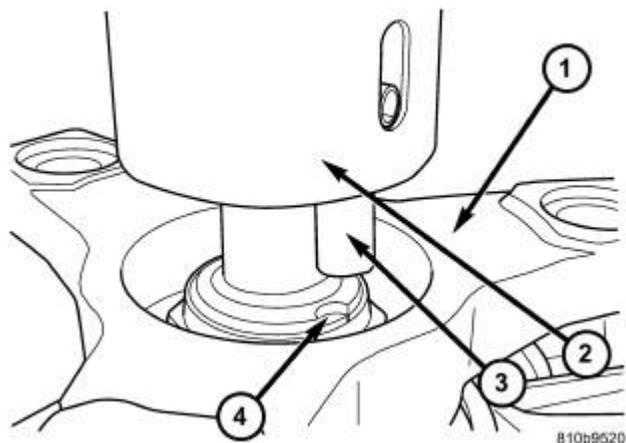

Fig. 83: Align Staking Tool
38. Place the Staking Tool (special tool #9078, Staking Tool) (2) and Driver Handle (special tool #C-4171, Driver Handle, Universal) onto the output shaft.
39. Rotate the Staking Tool (special tool #9078, Staking Tool) (2) until the alignment pin (3) engages the output shaft notch (4). Refer to **Fig. 83**.